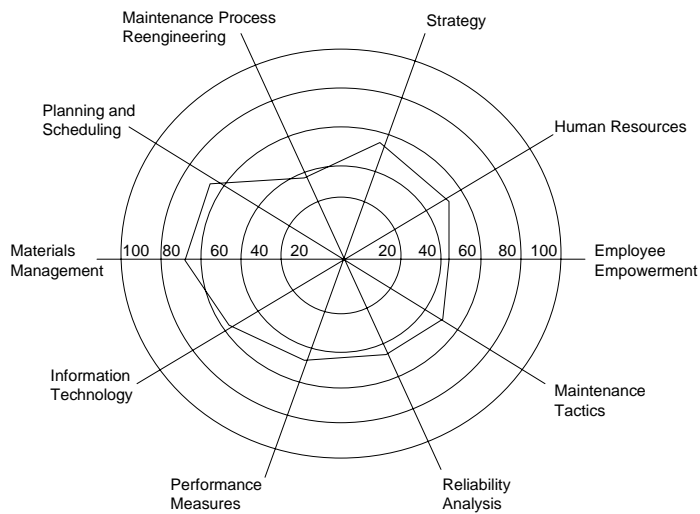

Figure 1-4. Maintenance Self-Assessment Results
- ❖ **Each response is scored and plotted either on a histogram (Figure 1.3) or on a Bell-Mason type spider diagram (Figure 1.4).**